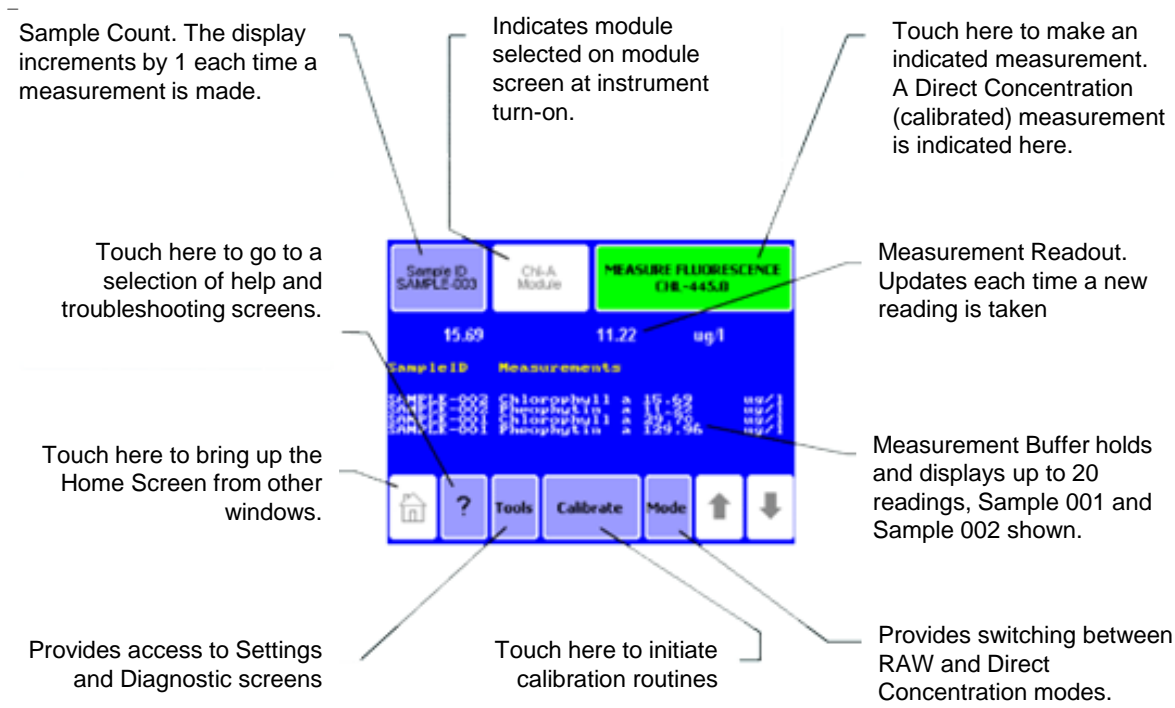

Figure 4: Trilogy Home Screen Display for Fluorescence Module Configuration.
4. When the Home Screen is displayed – see Figure 4, you are now ready to use the Trilogy in its Raw Mode (measurements are relative) or calibrate the Trilogy and the snapped-in Optical Application Module to make quantitative measurements.
The "Home" screen appears after confirmation of the Optical Application Module. The "Home" screen provides information for the multiple functions of the Trilogy. From the "Home" screen, select "Calibrate," "Tools," "Mode," or "Help". The "Home" screen is also the measurement screen - see Figure 4.